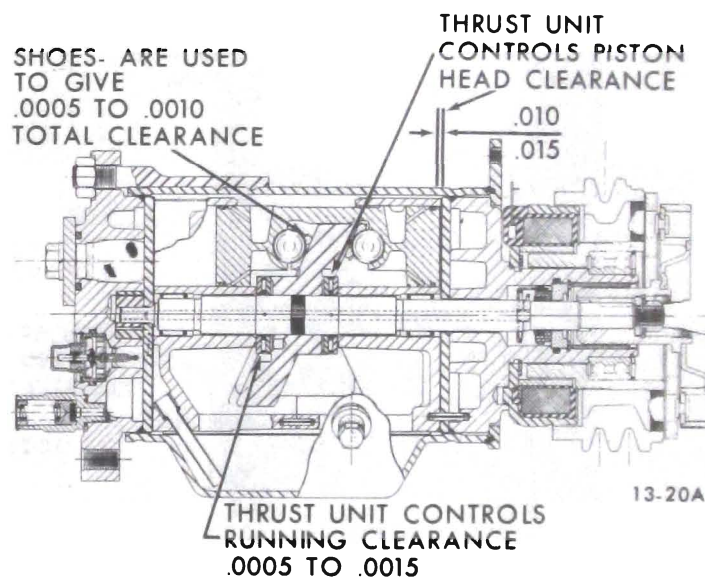

Figure 13-5 Compressor Needle Thrust Bearings and Races
5. Needle Thrust Bearing and Races - Two needle thrust bearings, each "sandwiched" between two races are located on either side of the swash plate hub. The front needle thrust bearing and races provide 0.010" to 0.015" clearance between the top of the pistons and the rear side of the front suction valve reed disc (see Figure 13-5). The rear needle thrust bearings and races provide 0.0005" to 0.0015" clearance between the hub of the swash plate and the rear hub of the rear cylinder. Races of various thicknesses are provided for service replacement to achieve required clearances when rebuilding units.